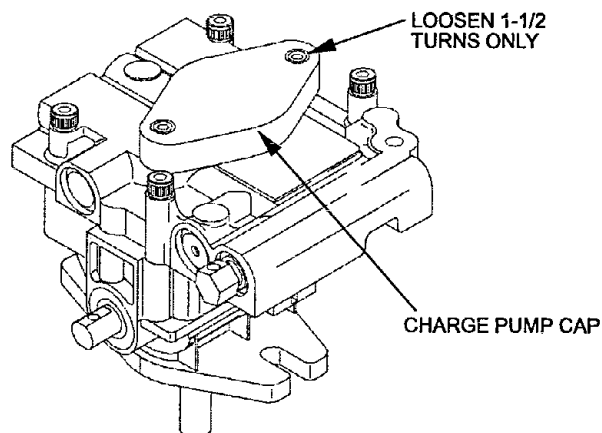

FIG. 8
- g) If either drive wheel does not rotate, one or both of the charge pumps (located on the top of the main pump as shown in Figure 8) may have lost their "prime". Refer to Section 5.1.10.
The critical area for purging air from the hydraulic system is between the oil reservoir and each charge pump located on the top of each variable displacement pump. (See Figure 8).
- e) To "prime" charge pump, loosen two hex socket head capscrews (shown in Figure 8) **1-1/2 turns only. Make sure engine is not running.** Lift charge pump housing upward and wait for a steady flow of oil to flow out from under housing. **Retighten capscrews.** Do this for both pumps. Note: Hydraulic reservoir can be pressurized to up to 5 psi to speed this process.